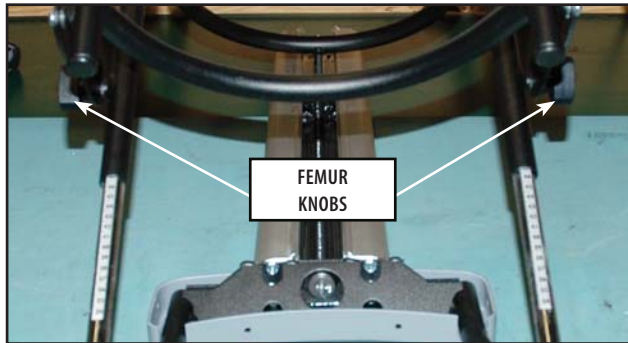

FIGURE 6.15
10. On the front end of the unit, loosen the Femur Knobs and raise the Femur Bars to full extension and tighten. **Refer to Figure 6.15.**